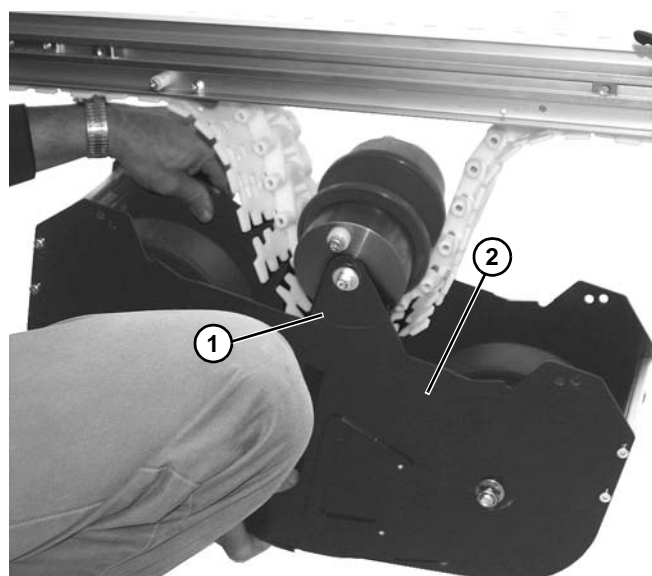

Figure 61
3. Raise weighted take up box assembly, with plate (**Figure 61, item 1**) on idler pulley assembly on outside of outer plate (**Figure 61, item 2**) of weighted take up assembly.